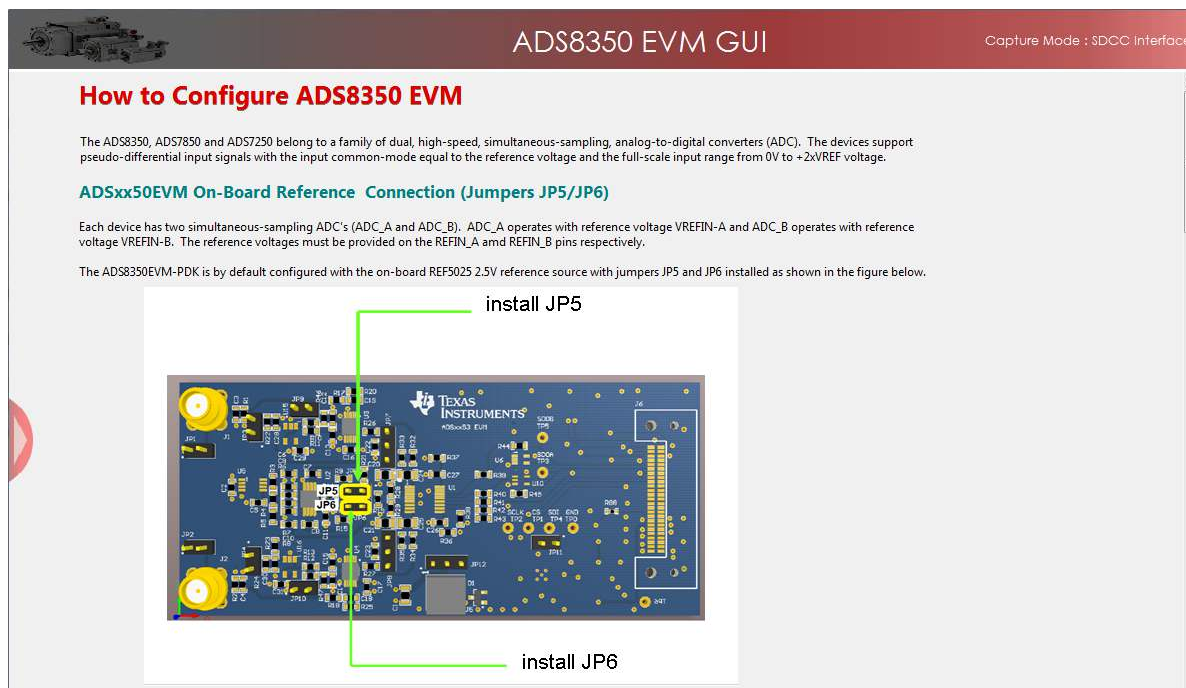

Figure 18. *ADS8350EVM Settings* Page
2. The ADS8350 dual, simultaneous ADC requires reference voltages V_{ref_A} and V_{ref_B} present on pins REFIN-A and REFIN_B, respectively. The ADS8350EVM provides an onboard 2.5-V reference source, REF5025 (U5), buffered with a dual OPA2350 amplifier and routed through jumpers JP5 and JP6. Therefore, jumpers JP5 and JP6 must be installed. Figure 18 shows the reference connections as described on the *ADS8350EVM Settings* page of the GUI.